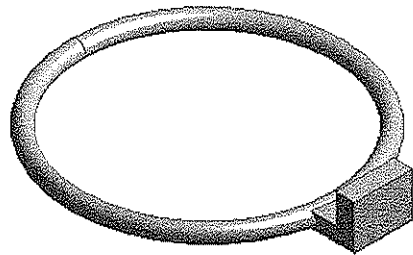

Figure 5-55 Model with the extruded feature
54. After all the parameters are specified, choose the **Generate** tool; the extruded feature is generated, as shown in Figure 5-55.